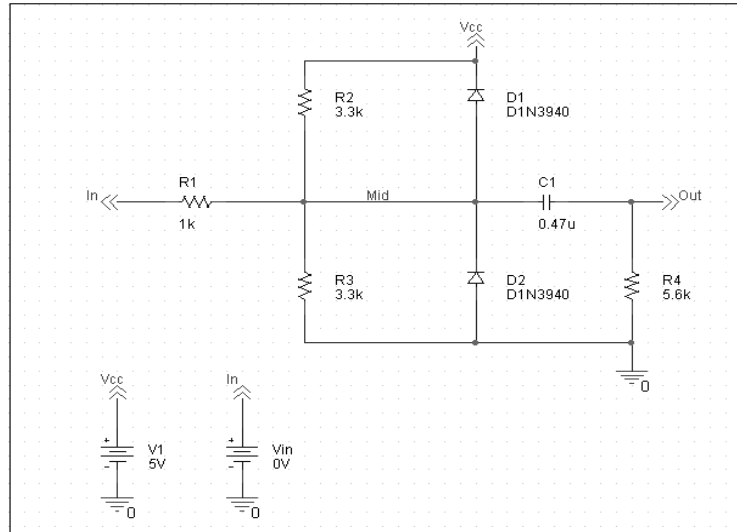

Figure 2 *Diode clipper circuit.*
This section describes how to use OrCAD Capture to create the simple diode clipper circuit shown in Figure 2.
- 6 Move the pointer to the correct position on the schematic page (see Figure 2) and click to place the first part.
- You will change part names and values that do not match those shown in Figure 2 later in this section.
- 3 Follow similar steps as described for the diodes to place the parts listed below, according to Figure 2. The part names you need to type in the Part name text box of the Place Part dialog box are shown in parentheses:
- resistors (R)
- capacitor (C)
- 6 Place the off-page connector parts according to Figure 2.
- 7 To place the ground parts (0), click the GND button on the tool palette.
- 9 Place the ground parts according to Figure 2.
- 6 Continue connecting parts until the circuit is wired as shown in Figure 2 on page 2-56.
Label the off-page connectors as shown in Figure 2 on page 2-56.
- 5 Continue naming the remaining parts until your schematic looks like Figure 2 on page 2-56.
- 4 Continue changing the Part Value properties of the parts until all the parts are defined as in Figure 2 on page 2-56.
Your schematic page should now have the same parts, wiring, labels, and properties as Figure 2 on page 2-56.